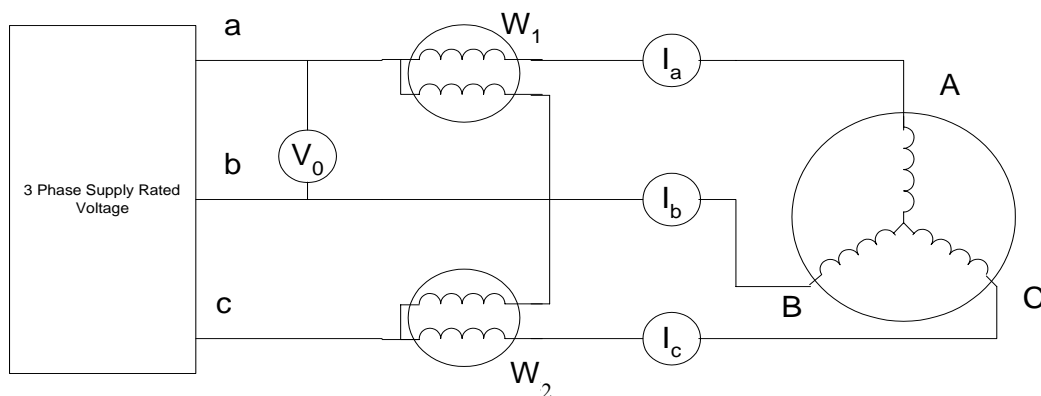

Figure 4: Schematic diagram for the no load test
1. Connect the circuit as shown in Figure 4. Apply the rated voltage.
5. Calculate R_{nl} , X_{nl} , Z_{nl} , and ϕ_0 from equations (4)–(7).